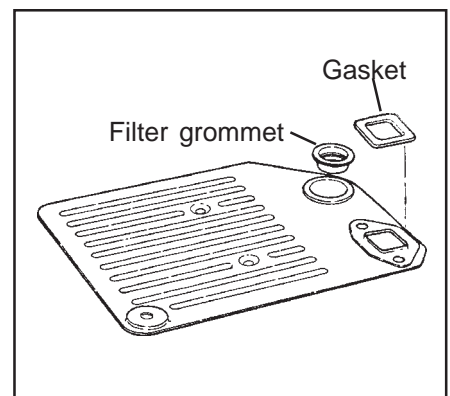

Figure 2
STEP 20. Make sure rubber grommet is installed in the filter. Install the cork filter gasket on filter using a dab of grease to hold it in place (See Fig. 2.). Coat the filter grommet with clean ATF and install filter on valve body. Push the filter straight on to avoid damaging the rubber grommet. Install (3) M6x16 (0.63") bolts and torque to **80-100 lb.in. (9-11 Nm)**.